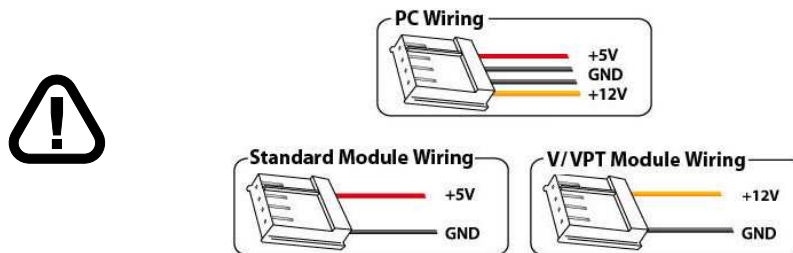

Figure 7: PC vs Matrix Orbital Display Module Wiring
- First, you will want to make sure that you are using the correct power connector. Standard floppy drive power cables from your PC power supply may fit on the Power/Data Connector however they do not have the correct pin out as can be seen in *figure 7 on page 4*. Matrix Orbital supplies power cable adapters for connecting to a PC, which can be found in the *Accessories Section on page 2*.